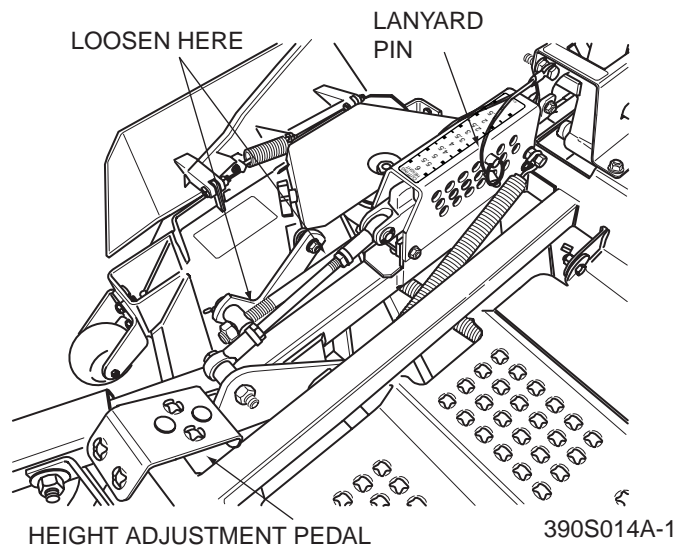
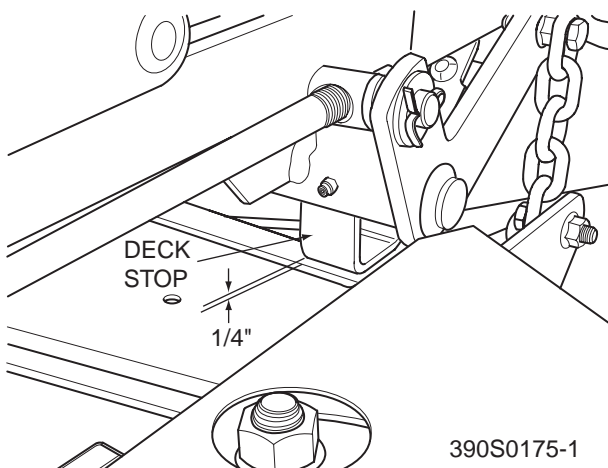

Figure 6-6. Cutter Deck Height Adjustment
Figure 6-7. Cutter Deck Stop
1. Place the cutter deck in the transport position. Loosen the jam nuts on both ends of the deck height control rod. (See Figure 6.6)
2. Turn the control rod (See Figure 6.6) until there is a 1/4" space between the rear deck stop and the top of the cutter deck. (See Figure 6.7). Tighten the jam nuts on the control rod.
4. Check the measurement from the floor to the cutter blade tip. If the measurement is not at 3", an adjustment can be made using the deck height control rod. (See Figure 6.6).